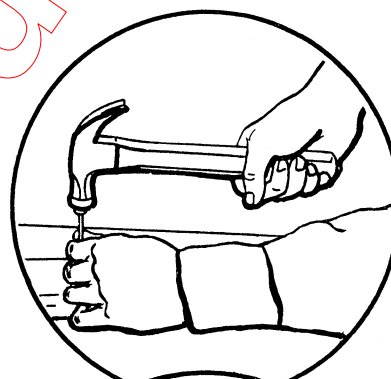

Fig. 1
- Hold a hammer near the end of the handle for more hitting power. To start a nail, hold it in place and tap it gently a few times until it is firmly set. Hit it straight in. (Fig. 1)